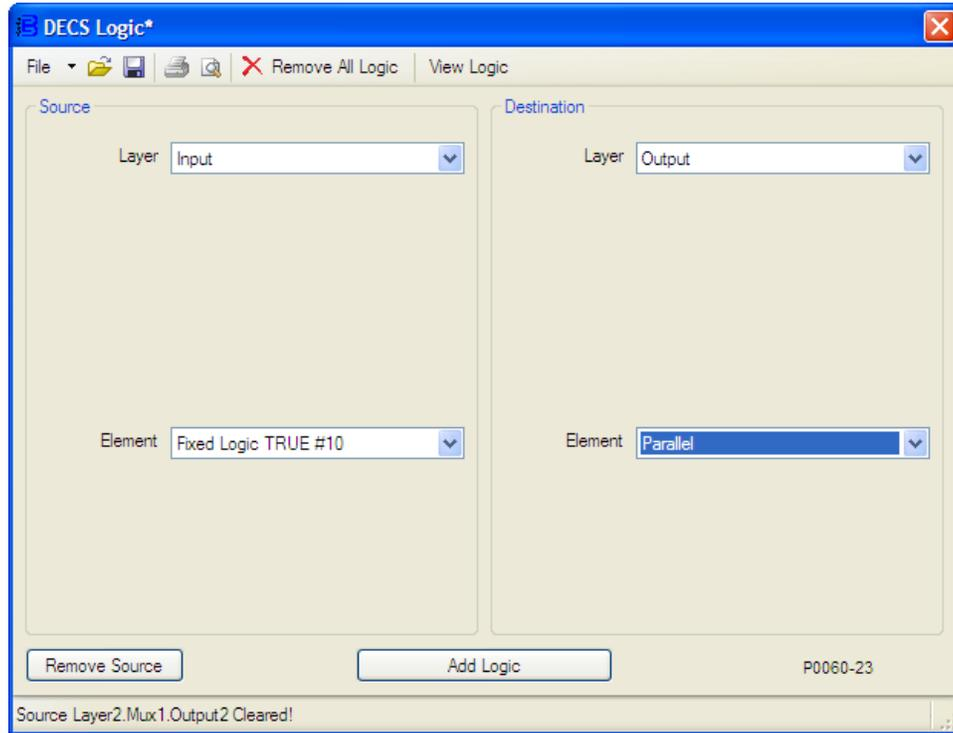

Figure 9-26. InputBuffer.Fixed Logic TRUE #10 ----> OutputBuffer.Parallel
4. Figure 9-26 illustrates the DECS Logic window settings associated with this step.